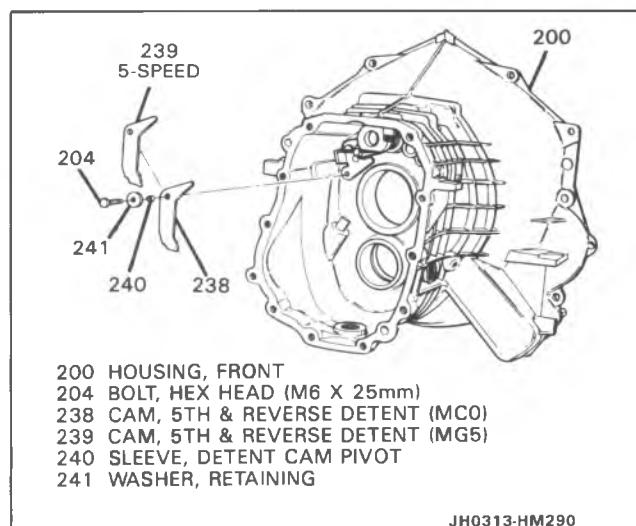

Figure 50 Removing detent cam components
8. Bolt (204), washer (241), reverse detent cam (238) (4-speed) or 5th-reverse cam (239) (5-speed) and bushing (240) (Figure 50).